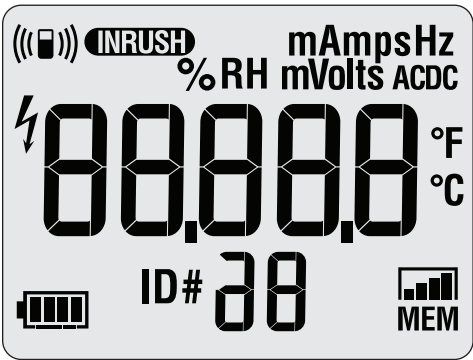

Figure 2. All Segments of the Display
- Push 1 while you keep LOG pushed until all of the display segments are shown. See Figure 2.